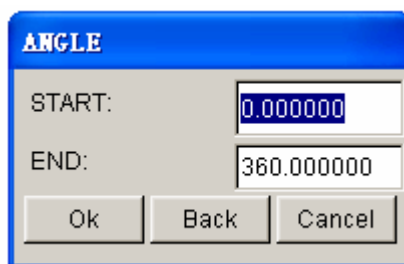

Figure 5.2.3 Revolution Angle dialog box
- Enter the start and end angles in the dialog box as illustrated in Figure 5.2.3. Select OK, and the surface will be generated after the dialog box is closed.